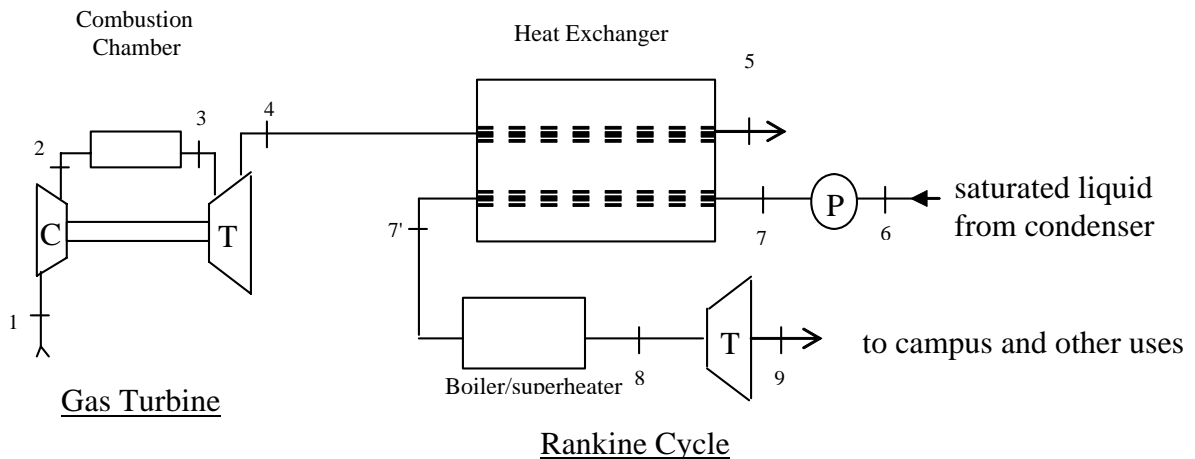

Figure 1. Combined Cycle
In Caltech's power plant, a gas turbine cycle is used as a topping cycle to a Rankine cycle. The attached Fig. 1 shows an approximate layout of the plant with the appropriate numbering. Using a heat exchanger, the exhaust heat from the gas turbine provides some of the heat input needed to boil the water for the steam cycle. The rest of the heat input is provided by a separate boiler. (Caltech also produces steam for campus heating and other uses, but forget about this part of the power plant.)
- First sketch both cycles on two different T-s coordinates with the same temperature scale and using the numbering from Fig. 1